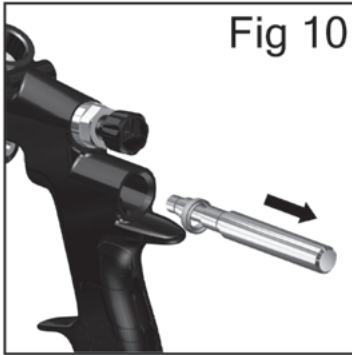

Fig 10
8. Withdraw the valve seat (19) from the gun body. (See fig 10).